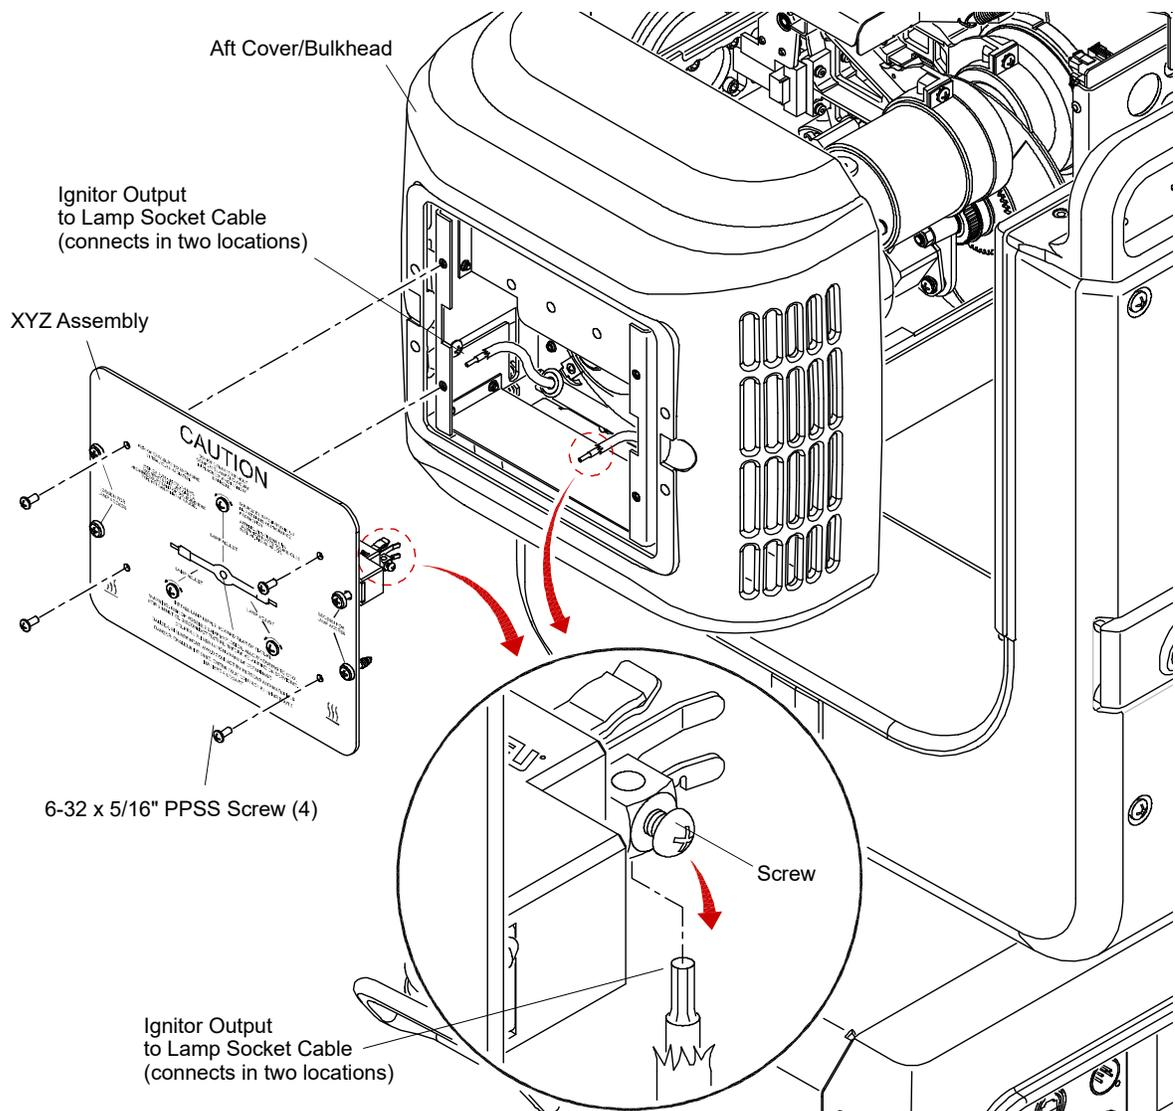

Figure 3-45: Removing XYZ Assembly
- Step 4. At XYZ Assembly, remove four 6-32 x 5/16" PPSS screws (**Figure 3-45**).